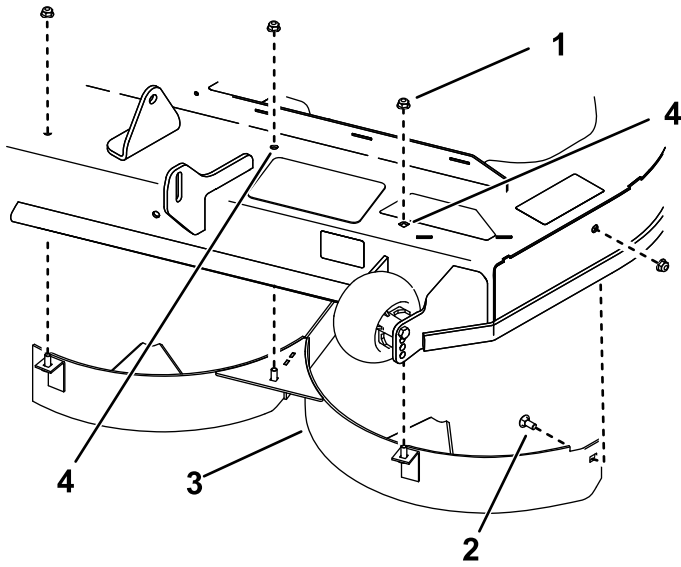

Figure 14
- For 54-inch and 60-inch decks, remove the existing hardware from the holes shown in Figure 14, and install the left baffle using 4 nuts (5/16 inch) and 1 carriage bolt (5/16 x 3/4 inch).